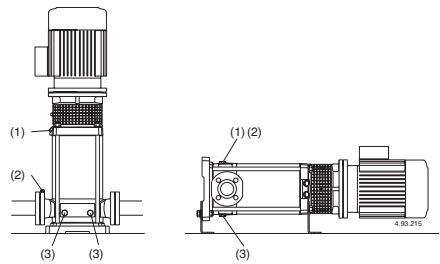
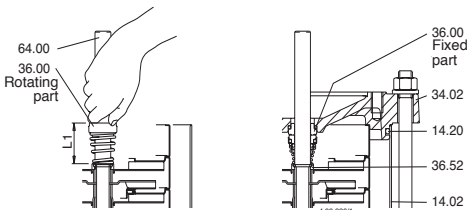

Fig.4 (1) Filling and air vent
Fig.5 Inserting the mechanical seal
When the pump is located above the water level (suction lift operation, **fig. 3A**) or with a positive suction head which is too low (less than 1 m) to open the non-return valve, fill the suction pipe and the pump through the priming hole (1) (**fig. 4**).
(2) Suction side air vent
(3) Draining
When the liquid level on the suction side is above the pump (inflow under positive suction head, **fig. 3B**), fill the pump by slowly and completely opening the inflow gate valve while keeping the delivery gate valve and air vent holes (1), (2) (**fig.4**) open to release the air.
**During filling, keep the air vent holes (1)(2) open only if the inflowing liquid presents no possible danger on account of its nature, temperature or pressure.**
Close the air vent holes (1), (2) (**fig.4**), for MXV-B, MXV(L) 25-32-40 e MXV(L)4 25-32-40 Tighten the needle screw (14.17) in the drainage plug (14.12) (**fig. 4b**) and close the air vent hole (14.04).
If a priming loss occurs (interruption of delivery flow, despite opened gate valves) or if a pressure oscillation is indicated on the pressure gauge, repeat the venting operation on the suction side (2), make sure all the suction pipe couplings are perfectly sealed and tighten the air vent plug (2) and the draining plugs (3) on the suction side (**fig.4**).
Or, after draining, perform the washing operation, inserting clean water (at least 40 litres) into the filling hole (1) on the delivery side and allowing it to come out of the draining hole (3) on the suction side (**fig.4**).
Before dismantling, close the gate valves in the suction and delivery pipes and empty the pump casing (fig. 4). For dismantling and re-assembly refer to the section drawing (section 14.) and figures 5, 6. Dismantling and inspection of all internal parts can be carried out without removing the pump casing (14.00) from the pipeline.
Push the rotating part as far as the shoulder ring (36.52) on the shaft (64.00), without compressing the spring. Check the length before and after insertion and raise the rotating ring as far as the initial length (L1 in fig.5).